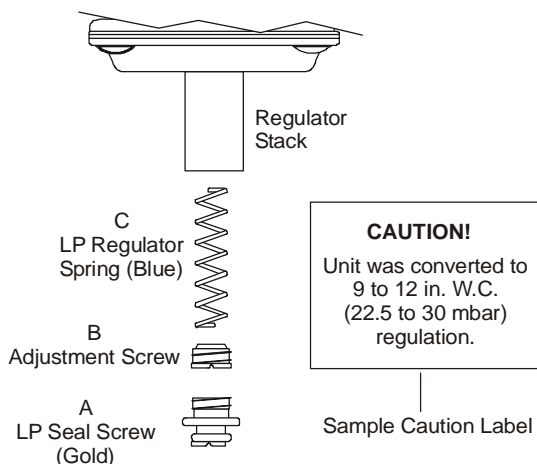

Figure 1: Regulator and Conversion Kit Parts
The conversion kit contains the following (Figure 1):
4. Remove Seal Screw A, Adjustment Screw B, and Regulator Spring C from the regulator stack (Figure 1).